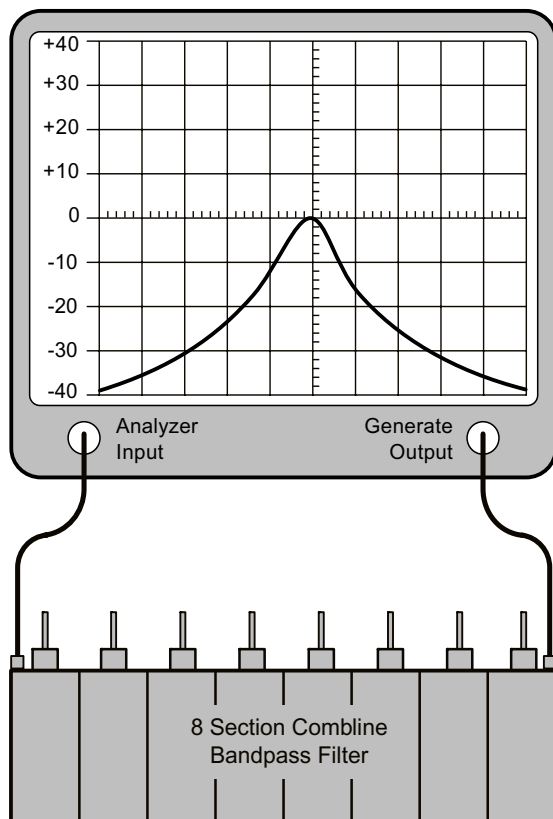

Figure 14: Preselector Tuning.
- 1) Connect test equipment as shown in **Figure 14**.